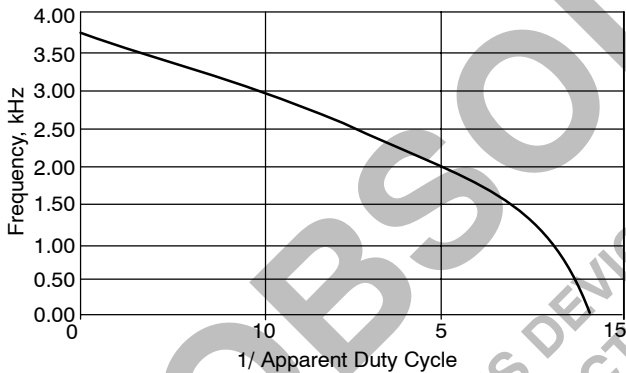

Figure 17. Normalized Input Filter Capacitor Ripple Current
12. Calculate Input Filter Capacitor Ripple Current. Use the chart in Figure 17 to calculate the normalized ripple current ( $K_{\text{RMS}}$ ) based on the reciprocal of Apparent Duty Cycle. Then multiply the input current by  $K_{\text{RMS}}$  to obtain the Input Filter Capacitor Ripple Current.